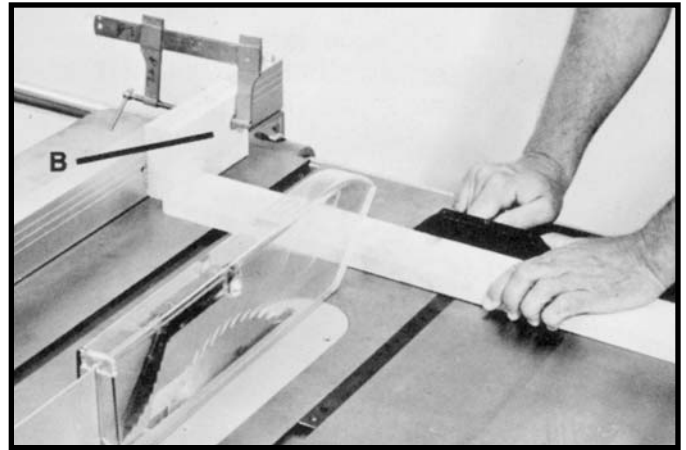

Fig. 121A
⚠ WARNING: NEVER USE THE BIESEMEYER FENCE SYSTEM AS A CUT-OFF GAGE WHEN CROSS-CUTTING WITHOUT USING (B) FIG. 121A.
When cross-cutting a number of pieces to the same length, a block of wood (B) can be clamped to the fence and used as a cut-off gage as shown in Fig. 121A. It is important that this block of wood always be positioned in front of the saw blade as shown. Once the cut-off length is determined, secure the fence and use the miter gage to feed the work into the cut.
IMPORTANT: When using the block (B) Fig. 121A, as a cut-off gage, it is very important that the rear end of the block be positioned so the work piece is clear of the block before it enters the blade.